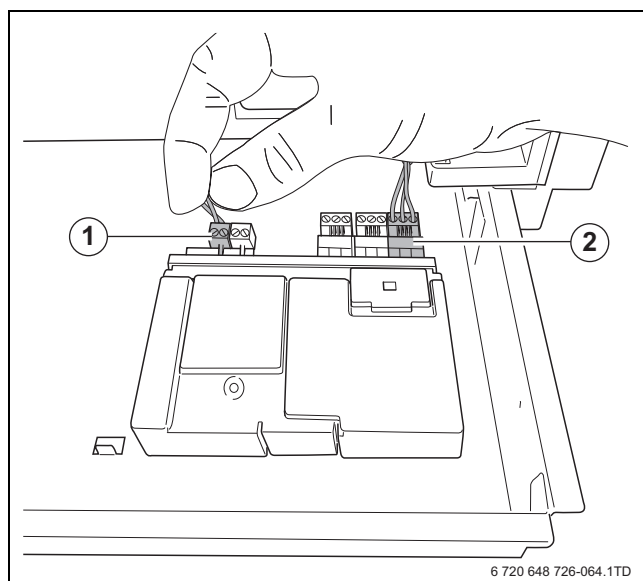

Fig. 64 Interconnecting modules
- ▶ Connect the free connector of the EMS bus connecting cable to the first module (→ fig. 64, [2]).